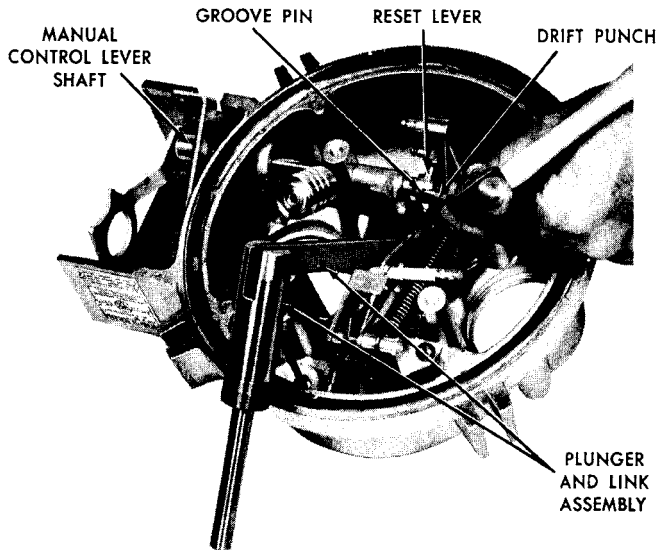

Figure 30. Driving out groove pin
F. Using a drift punch, drive out groove pin. See Figure 30.